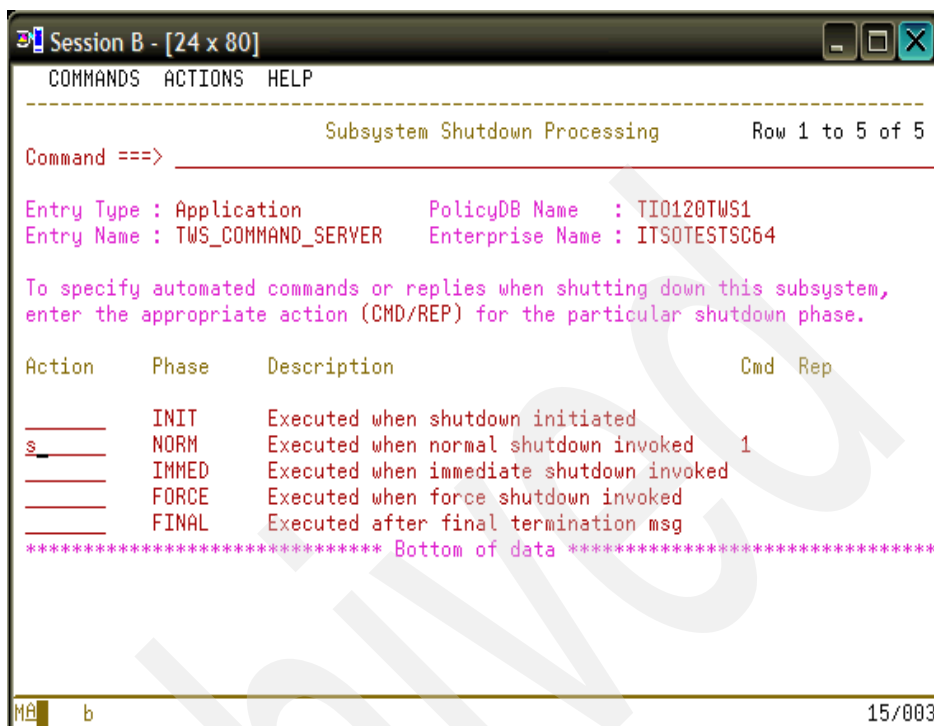

Figure 4-36 Subsystem Shutdown Processing panel
4. Place an s in the Action column next to SHUTDOWN on the Policy Selection panel. The Subsystem Shutdown Processing panel that is shown in Figure 4-36 on page 141 displays.